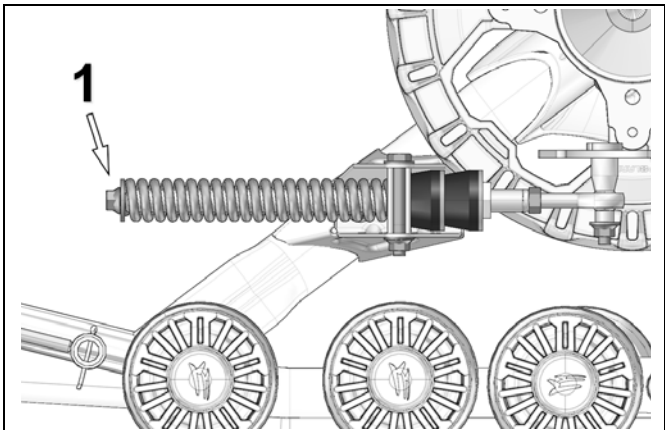

Figure 9
- Verify that the spring assembly bolt (1) is tightened to the recommended torque [40 N•m] and that stabilizing arm components are in the correct order. See Figure 9.